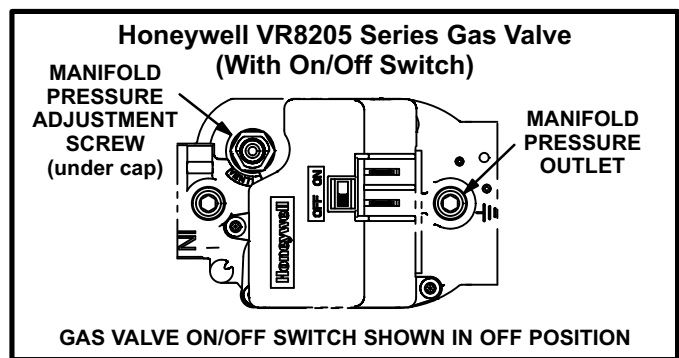

FIGURE 27
#### Gas Valve Operation (Figures 27, 28 and 29)
- 6 - *Honeywell VR8205 Gas Valve with ON/OFF Switch* - Move gas valve switch to **OFF**. See figure 27.
- 8 - *Honeywell VR8205 Gas Valve with ON/OFF Switch* - Move gas valve switch to **ON**. See figure 27.
- 4 - *Honeywell VR8205 Gas Valve with ON/OFF Switch* - Move gas valve switch to **OFF**. See figure 27.
- 2 - After the line pressure has been checked and adjusted, check the manifold pressure. A natural gas to LP/propane gas changeover kit is required to convert the unit. Manifold pressure for all units is given in table 11. See figures 27, 28 and 29 for the location of the manifold pressure adjustment screws.